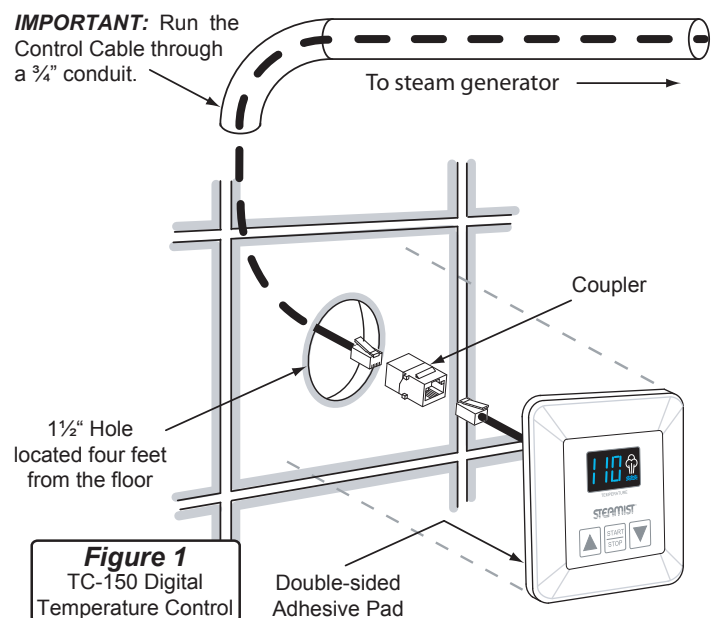

Figure 1
- a) The TC-150 control must be installed inside the steam room. For convenience the recommended height from the floor is four feet. Provide a 1½" hole in the wall at this location (see Figure 1).